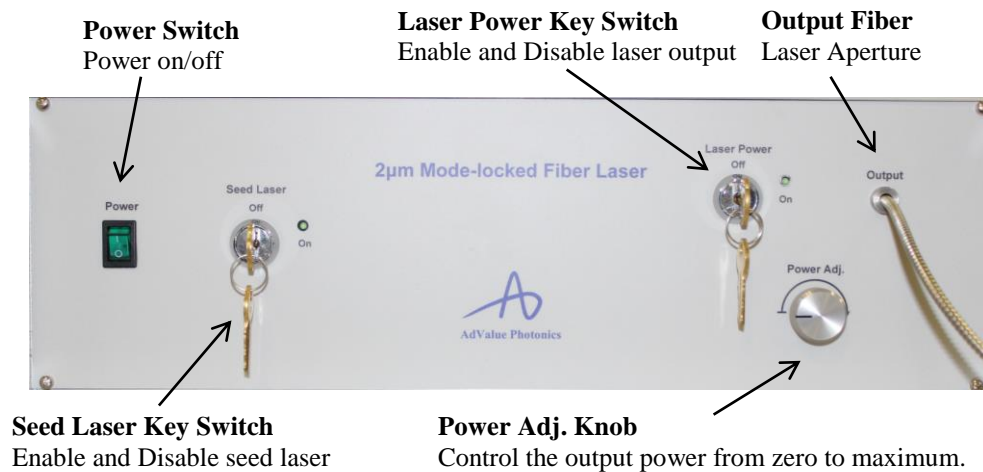

Figure 1. Front Panel View
- 1) Make sure that the keys are aligned to “Off” position and set the Power Adj. knob to most counter-clockwise position (Figure 1).